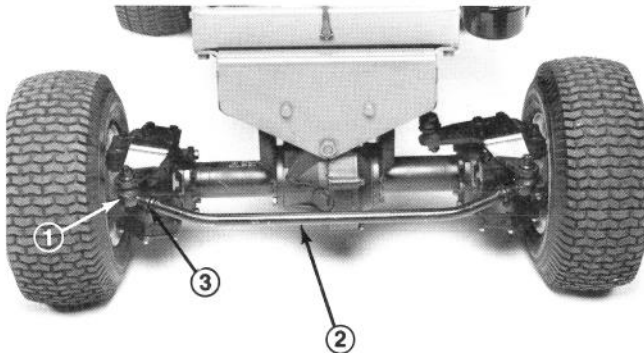

Figure 57
2. Remove cotter pin and nut securing one tie rod ball joint to mounting bracket on axle and disconnect ball joint from axle (Fig. 57).
3. Loosen screw on tie rod clamp (Fig. 57). Rotate ball joint in or out to adjust length of tie rod.